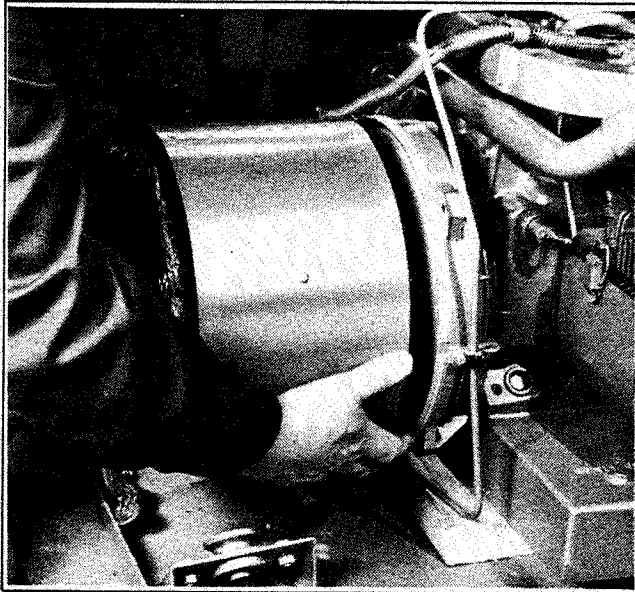

Figure 8-9. Removing Stator
17. Gently slide stator over rotor. Be careful not to damage rotor during stator removal. See Figure 8-9. Note position of stator leads before removing stator.